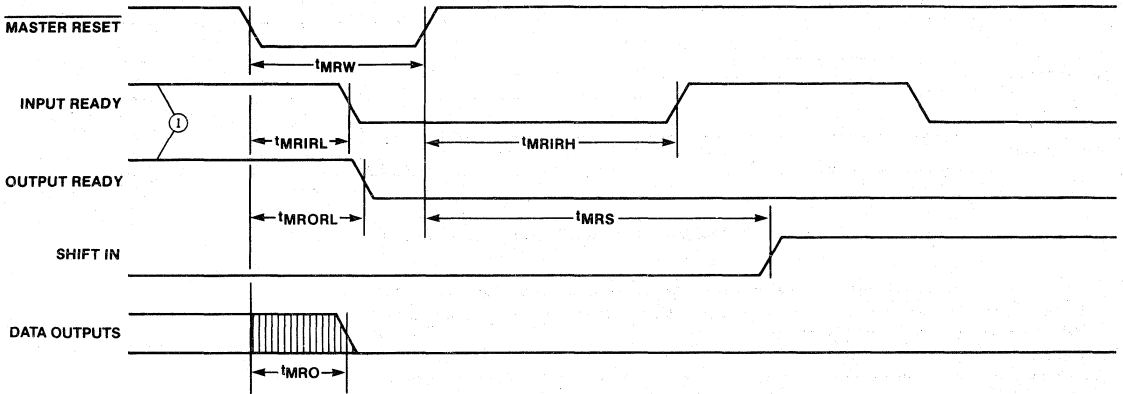

Figure 10. Master Reset Timing
After power up the Master Reset is pulsed low (Figure 10) to prepare the FIFO to accept data in the first location. Master Reset must be applied prior to use to ensure proper operation. When Input Ready (IR) is HIGH the first location is ready to accept data from the  $D_x$  inputs. Data then present at the data inputs is entered into the first location when the Shift-In (SI) is brought HIGH. A SI HIGH signal causes the IR to go LOW. Once data is entered into the first cell, the transfer of data in any full cell to the adjacent (downstream) empty cell is automatically activated by an on-chip control. Thus data will stack up at the end of the device (while empty locations will "bubble" to the front when data is shifted out).  $t_{PT}$  defines the time required for the first data to travel from input to the output of a previously empty device. When SI is brought LOW and the FIFO is not full, IR will go HIGH, indicating more room is available. If the memory is full, IR will remain LOW. The FIFO should always be cleared by using Master Reset before starting the operation.